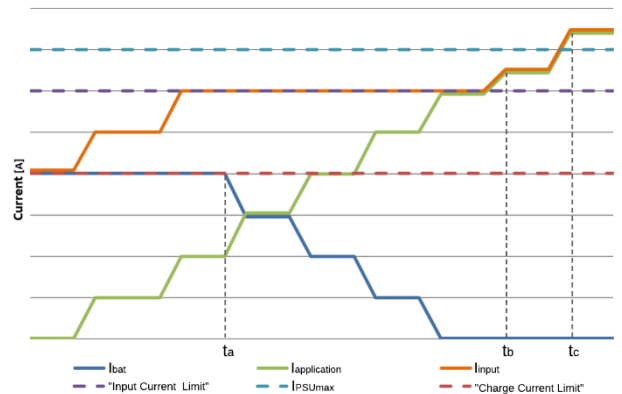

Figure 3 – PMM240 operational example
Figure 3 presents an explanation of the concept of these parameters. In this figure  $I_{PSUmax}$  is the maximum PSU output current and  $I_{input}$  is the sum of the current required by the application ( $I_{load}$ ) and the current applied to charge the battery ( $I_{bat}$ ) as written in equation (1), where  $V_{bat}$  is the battery voltage and  $V_{PSU}$  is the PSU output voltage.